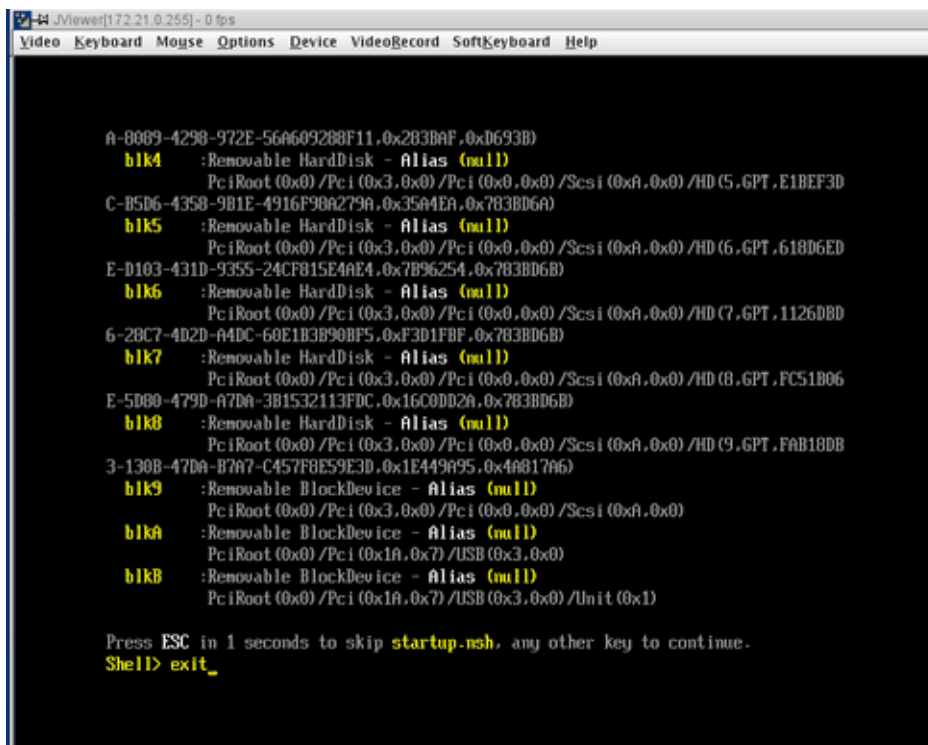

Figure 3-21 KVM JViewer Shell Prompt with **exit** Command Screen
2. When the **Shell>** prompt appears enter **exit**, as shown in Figure 3-21 on page 62.